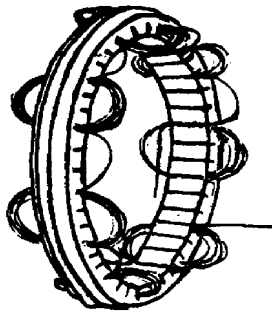
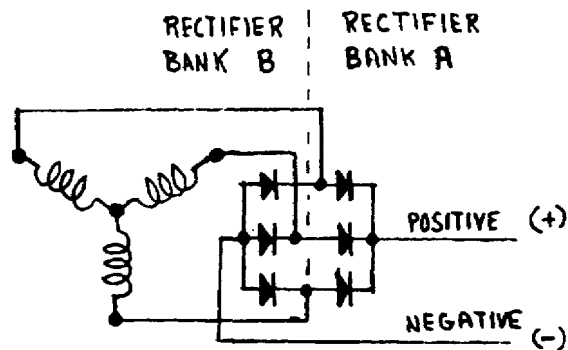

Figure 35B. Stator.
Figure 36. Three-phase rectifier.
(1) Each winding consists of six coils and each coil contains many turns of wire. A complete cycle of AC voltage will be generated in each coil as a North and South pole pass by the coil.
(2) With the six coils in series, each being influenced by a North and South pole simultaneously, there will be six coil voltages adding together to provide a complete winding voltage (fig 35B).
(3) Two more identical windings are mounted on the iron frame to complete the stator assembly. These windings are spaced so that the "Y"-connected stator delivers three-phase AC voltage.
(4) In paragraph 8 a two-pole magnet type of rotor was used to show that a complete cycle of AC voltage will be produced for each rotor revolution. With a 12-pole rotor, six complete cycles of AC voltage will be produced for each rotor revolution.
c. The stator voltage is connected to six diodes which are mounted internally. They convert the three-phase AC voltage into DC and are arranged as shown in figure 36.